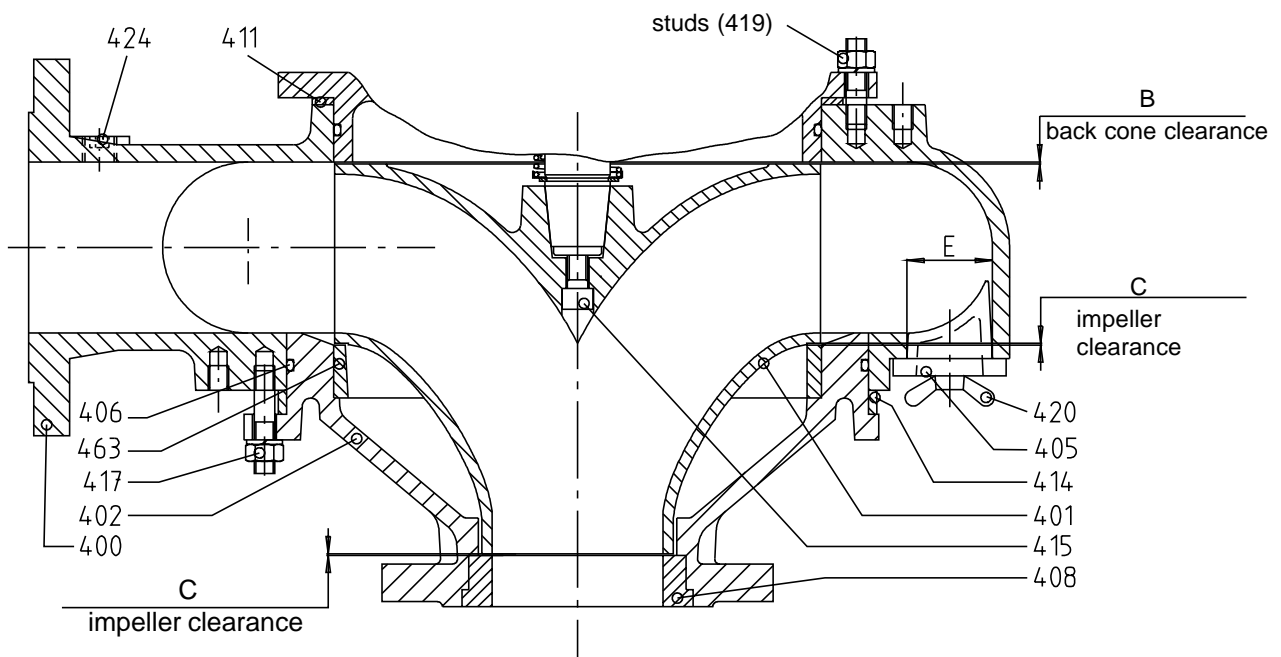

Fig. 2
Tighten fasteners (419) again, and with a feeler gauge, check the actual clearance between impeller and wear ring (reaching in through the suction of the pump). If the clearance "C" is significantly different to the table (Fig. 2), it is possible that the wear is excessive or not uniform: disassembly and inspection is recommended.
**3.3.3 REMOVAL SUCTION COVER AND WEAR RINGS (Fig. 2)**